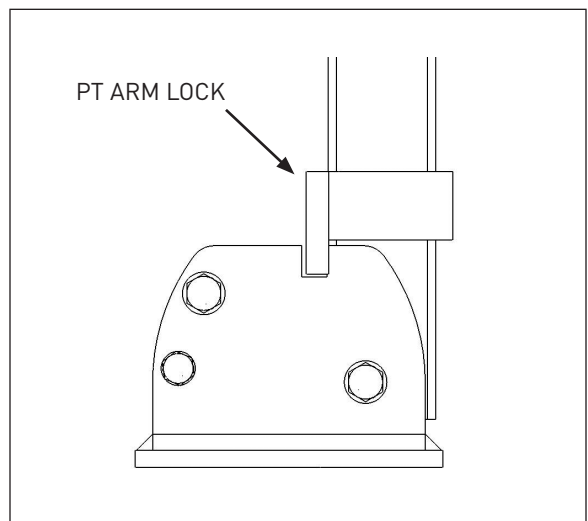

Figure 9
**CAUTION:** Make sure that the Pier Tender Arm Lock is positioned into the groove on the Pier Tender base assembly when the Pier Tender is in the vertical position (**Figure 9**).